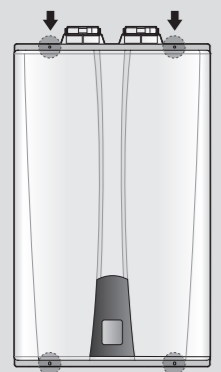

Figure 1. NPE Series Front cover
- Using a Phillips hand screwdriver, remove 4 screws (2 from the top and 2 from the bottom) of the front cover assembly to gain access to the internal components. See Figure 1 for illustration of the front cover on the unit.